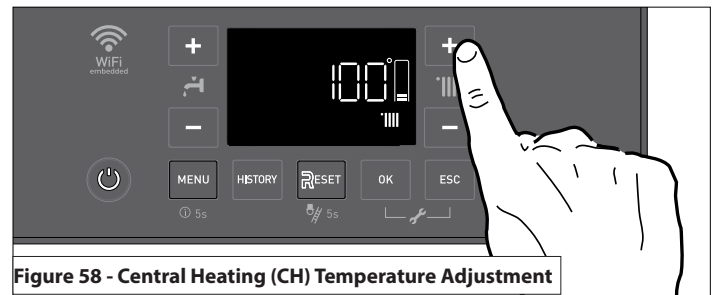

Figure 58 - Central Heating (CH) Temperature Adjustment
It is possible to adjust the central heating (CH) temperature setpoint from the home screen by pressing the CH +/- buttons. See Figure 58. The allowable operating range is limited by the Max and Min Temperature Settings (e.g., Parameters 4.2.5 and 4.2.6) which are adjustable via the Technical Menu. See P. Technical Menu - Access and Navigation.